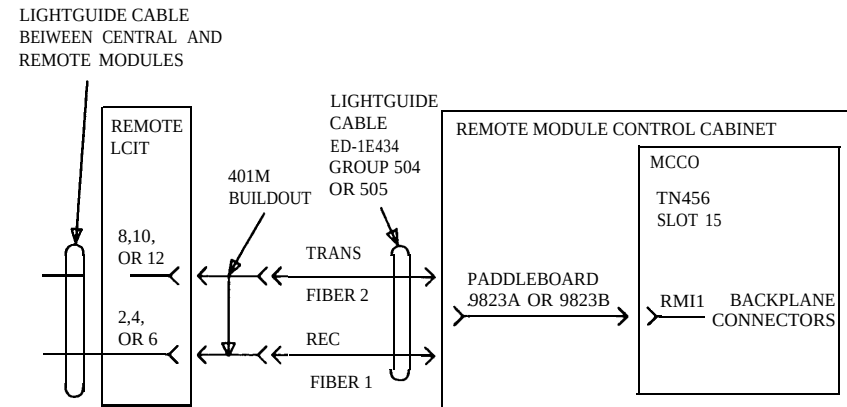

Figure 26-9. Remote RMI Fiber-Link Connections for Unduplicated MC (Phase 3)
Figures 26-9 and 26-10 show the RMI fiber link for the remote location for an unduplicated and duplicated system. Install the RMI fiber link as follows:
4. Connect the fiber-optic cables as shown in figures 26-9 and 26-10.